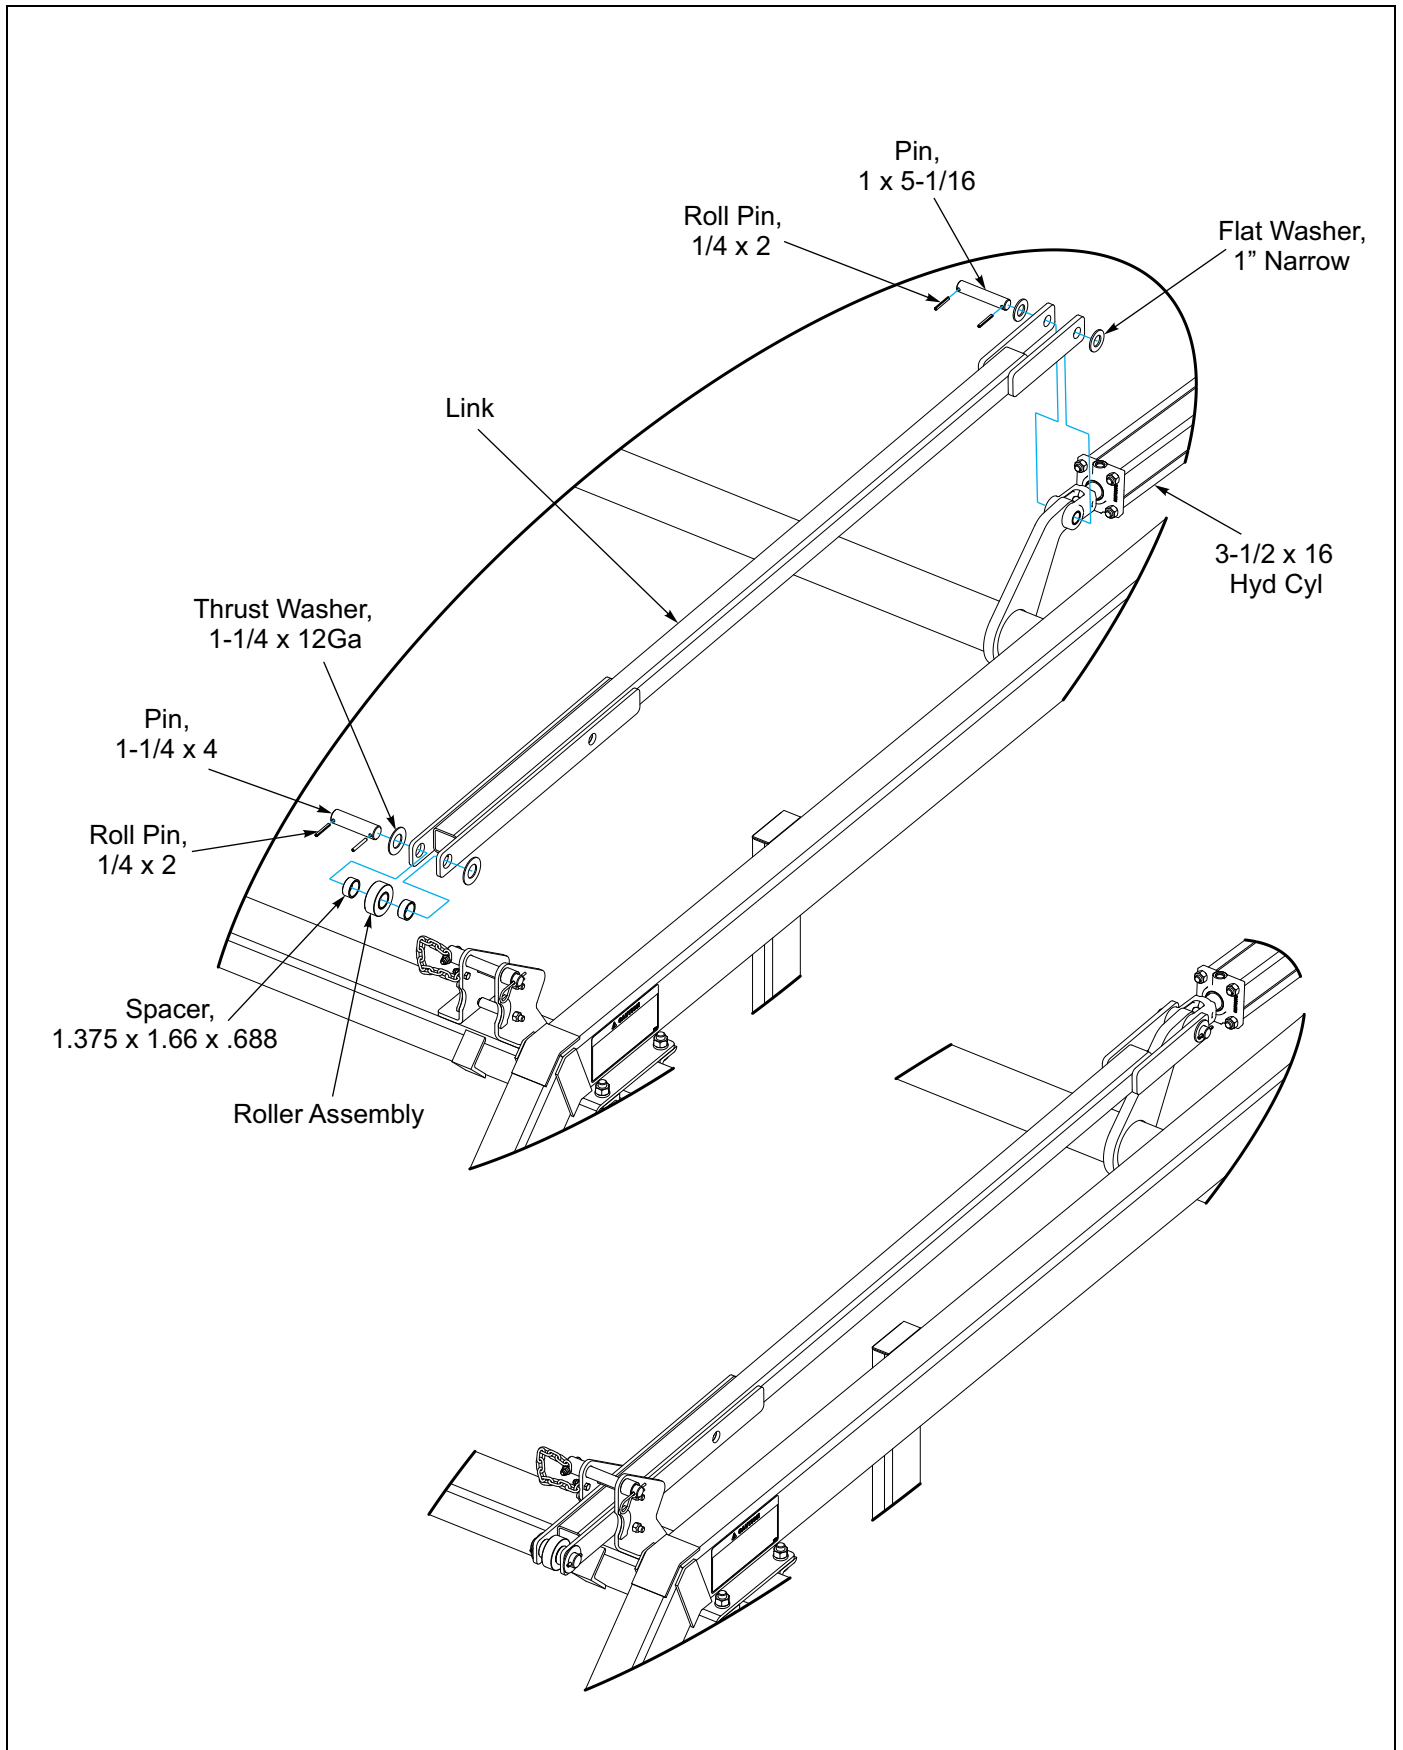

Figure 2-5: Transport Axle Link
2. Install the base end of the 3 1/2 x 16 Hydraulic Cylinder with ports up to the Rear Frame Lug and the Rod End to the Rockshaft Arm with the pins provided **See Figure 2-5.**
Align the Link single rear hole up with the Rockshaft Arm. Place a 1" Narrow Flat Washer on each side between the Rockshaft Arm and the Link and one on the outside of the Link, secure with 1 x 5-1/16 Pin and 1/4 x 2 Roll Pins. **See Figure 2-5.**